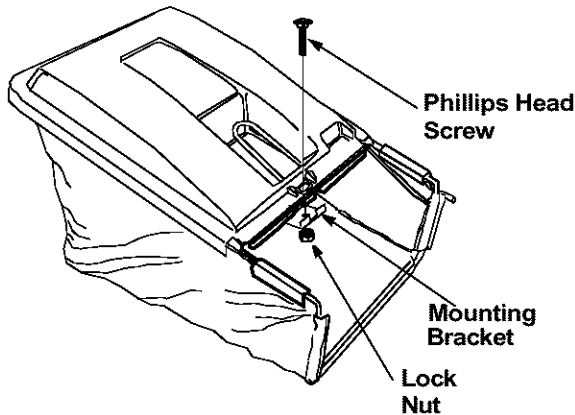

Figure 10
- Place the mounting bracket under the front of the handle, with the tabs on the bracket facing up. Insert phillips head screw down through the hardtop cover and mounting bracket. Secure with hex lock nut. See Figure 10.